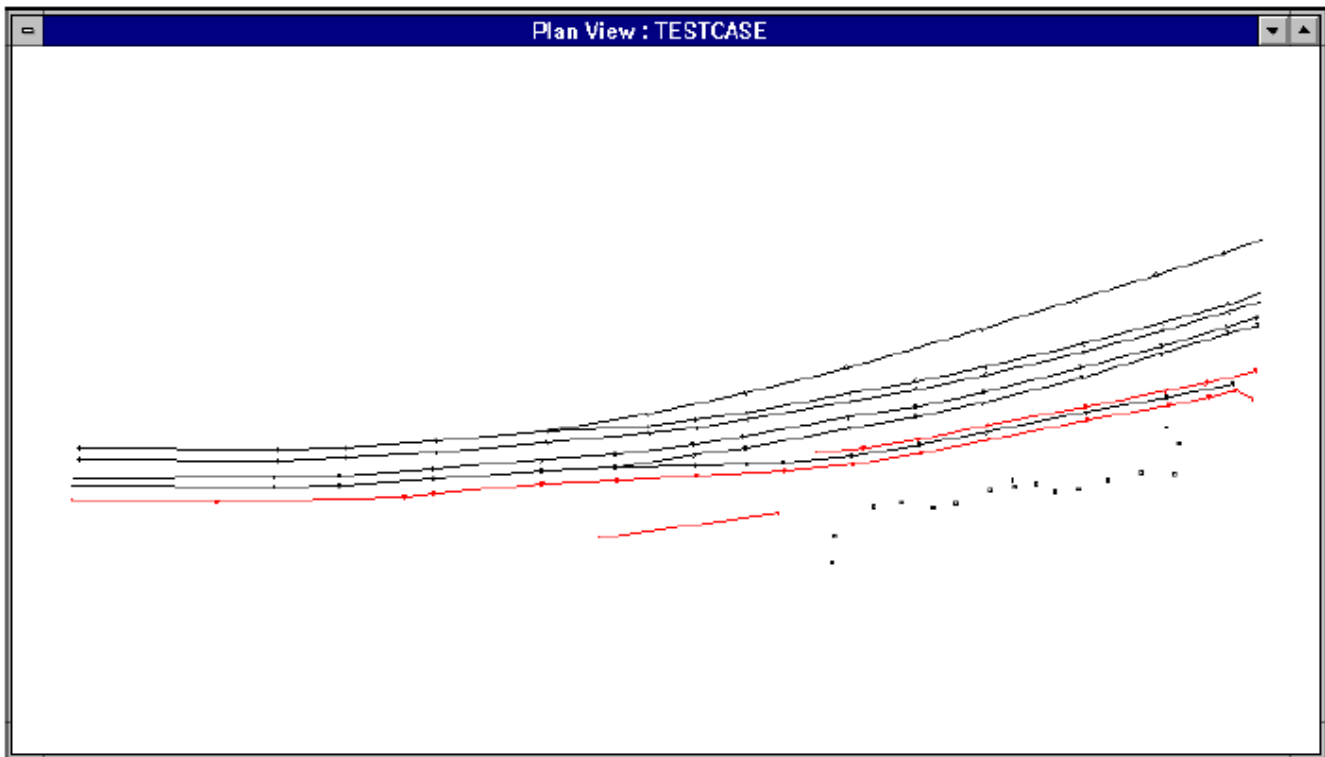

Figure 74. Resultant plan view of official TNM test case.
- Highlight the *STAMINA.DAT* file, then click on the OK button. The resultant plan view with the imported file should look like Figure 74.